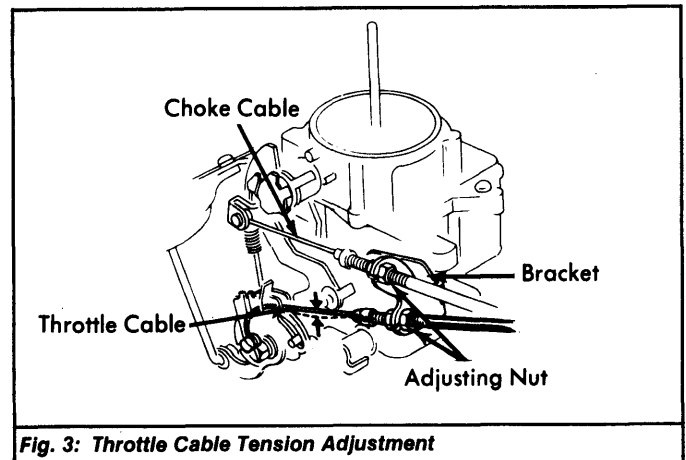

Fig. 3: Throttle Cable Tension Adjustment
- 2) Back out adjusting nut .079" (2 mm). Inner cable play should be about .157-.397" (4-10 mm) between throttle link and bracket. See Fig. 3.
Turn adjusting nut until there is no clearance between choke lever and bracket. See Fig. 3. Pull choke knob all the way out. Choke valve should close completely. Push choke knob all the way in. Choke valve should be fully open.